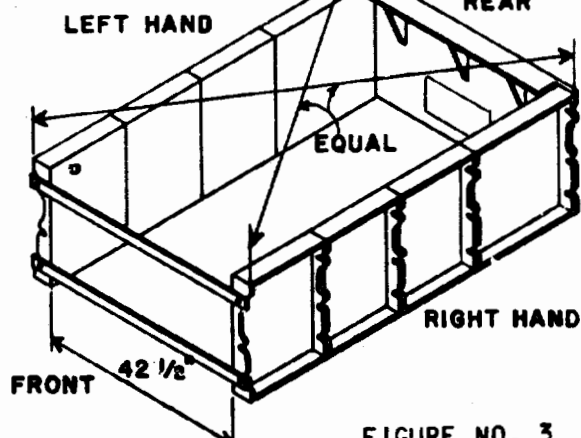

FIGURE NO. 3
2. BOLT THE FOUNDATION BACK END (3308) AND THE ERECTING BARS TO THE SIDEWALLS USING A 7/16" x 1-3/4" BOLT, TWO WASHERS AND A NUT AT EACH BOLT HOLE. CHECK TO BE SURE THAT THE SIDEWALLS ARE PARALLEL AND AT RIGHT ANGLES TO THE BACK AND ERECTING BARS BY ADJUSTING TO MAKE THE DIAGONAL MEASUREMENTS OF THE FOUNDATION EXACTLY EQUAL USING A RIGID STICK OR BOARD AS A GAUGE. SEE FIG. NO. 3.